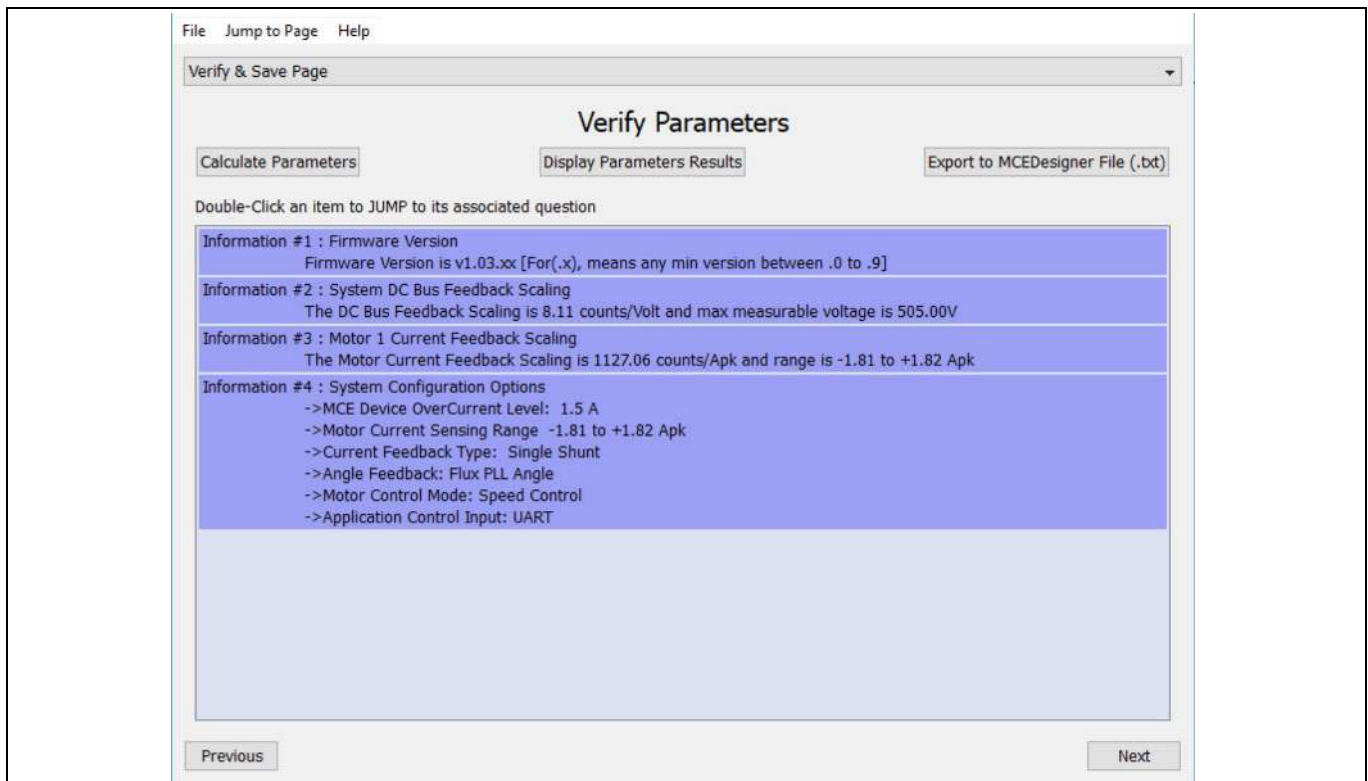

**Figure 5 MCEDesigner warning message**
- 4. (In case blank IC) If the firmware has been erased from the IMD111T, the following warning message will pop up “Target device firmware and parameters file are not programmed! Please program firmware and parameters file” as Figure 5. Then you can program the firmware and parameters as described in the Step 5. If it is not the blank IC, no such message will be indicated.